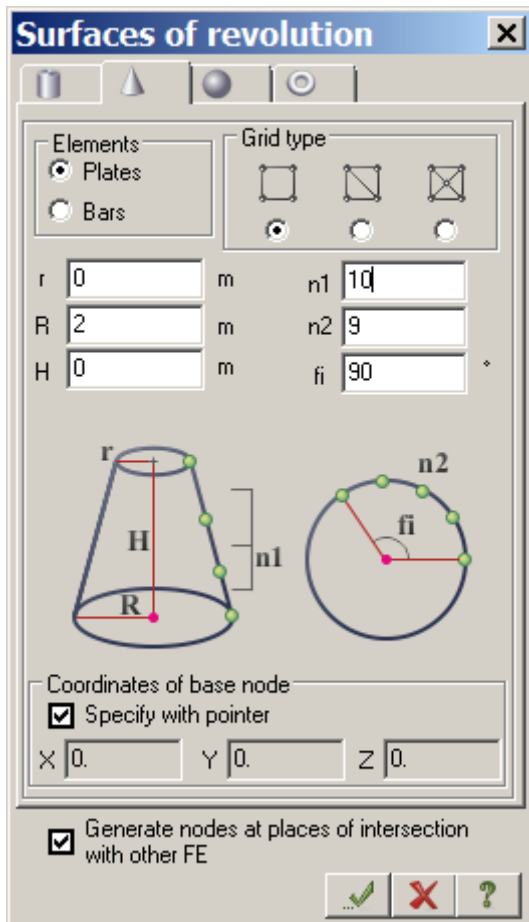

Figure 6.3 **Surfaces of revolution** dialog box
- ⇒ In the **Surfaces of revolution** dialog box, click the second tab (see Fig.6.3) and define the data necessary to generate cone: